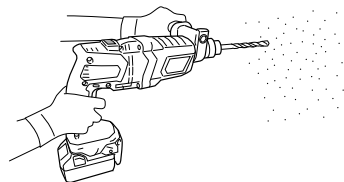

Fig. 15
- (1) Mount the drill bit.
- (2) Pull the trigger switch after applying the drill bit tip to the drilling position. (Fig. 15)
- (3) Pushing the rotary hammer forcibly is not necessary at all. Pushing slightly so that drill dust comes out gradually is just sufficient.
When the drill bit touches construction iron bar, the bit will stop immediately and the rotary hammer will react to revolve. Therefore please grip the side handle and handle tightly as shown in Fig. 15.